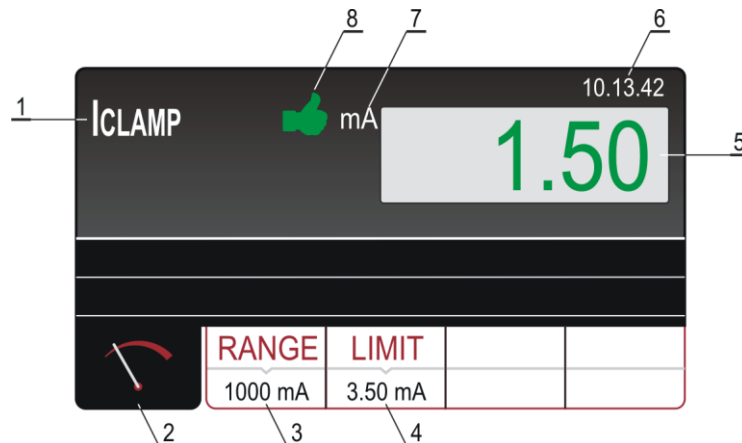

Fig. 70 : Visualization of ICLAMP test result
7. Start the measurement by pressing the **START/STOP** key. The measurement will start to run and will be stopped after pressing the **START/STOP** key again. Measurement result will be currently displayed in green color if it is lower than or equal to set limit value or in red color if it is higher than set limit value. Final result will be equipped with green 🟢 symbol and with acoustic sound if it is OK or with red 🔴 symbol and with longer acoustic sound if it is not OK. See the display outlook with test result in Fig. 70